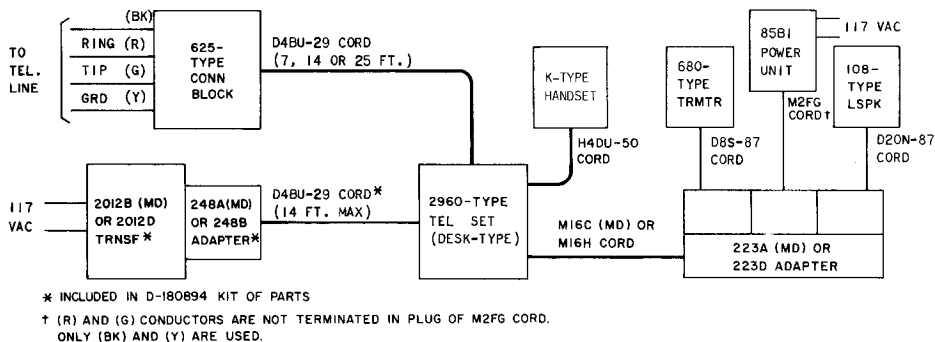

Fig. 18—Block Diagram—2960A01M (MD) Telephone Set With 4A Speakerphone
**Note:** All cords plug into 223D adapter. (See Fig. 18 for block diagram of interface.)